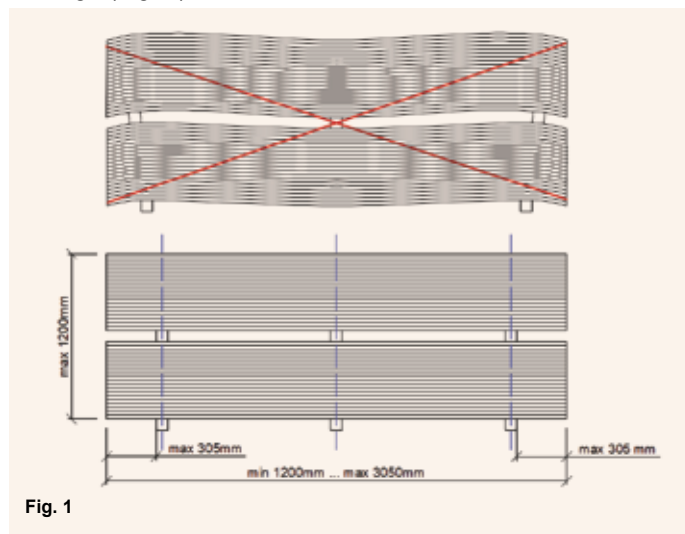

Fig. 1
**VMG Lignum Board | Floor T&G2** should be stacked horizontally on wooden battens (100 x 80 mm). Wooden battens should be of the same dimensions and spaced no further than 950 mm apart. At the edges, **VMG Lignum Board | Floor T&G2** should not project from the last wooden battens by more 305 mm. Wooden battens should be vertically aligned to avoid damage (Fig. 1).